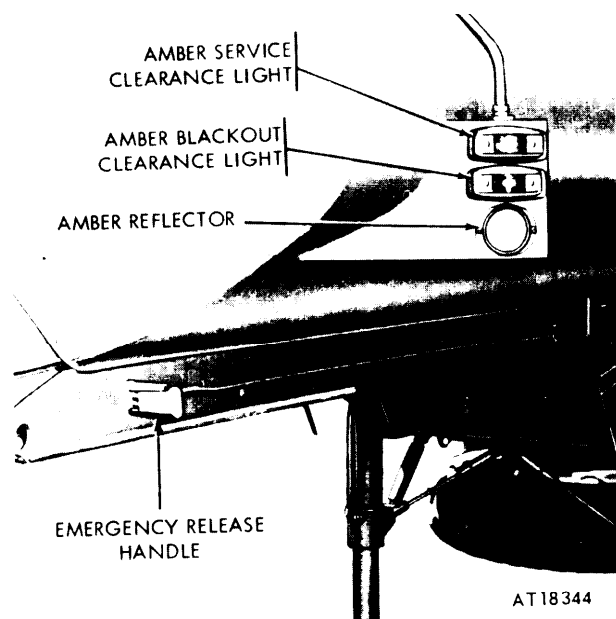

Figure 2-13. Left front end of semitrailer.
*g. Emergency Release Handle* (fig 2-13). Pulling outward on this handle releases the engaged operating control lever of any open emergency dump valve, allowing it to close immediately.